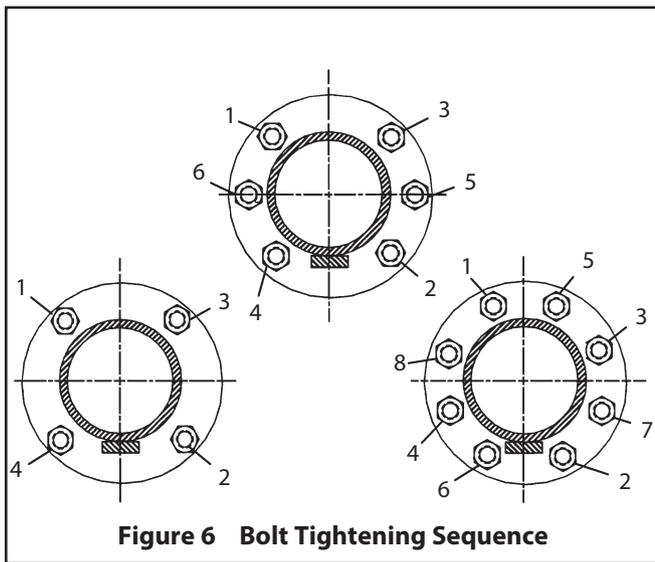

Figure 6 Bolt Tightening Sequence
14. Place the body cap (2) over the body studs (12) being careful to properly orient the body cap and body as originally assembled by matching orientation marks made prior to disassembly. Take care not to damage body gasket (65) or seat (7) during this operation.
15. Lubricate the body stud threads and face of the nuts (16) with Never-Seez® or equivalent. Install nuts (16) on body studs (12) and tighten sequentially as shown in the diagram (see **Figure 6**), to the recommended torques as shown in torque chart (**Table 1**).
16. Place the indicator stop (32) with "BTM" facing down over the stem so that the longer part is over the body.
17. Place the spring (33) over the stem (5) with the larger diameter contacting the indicator stop (32).
18. Compress the spring (33) and hold down by putting the retaining ring (34) in the groove in the stem (5).